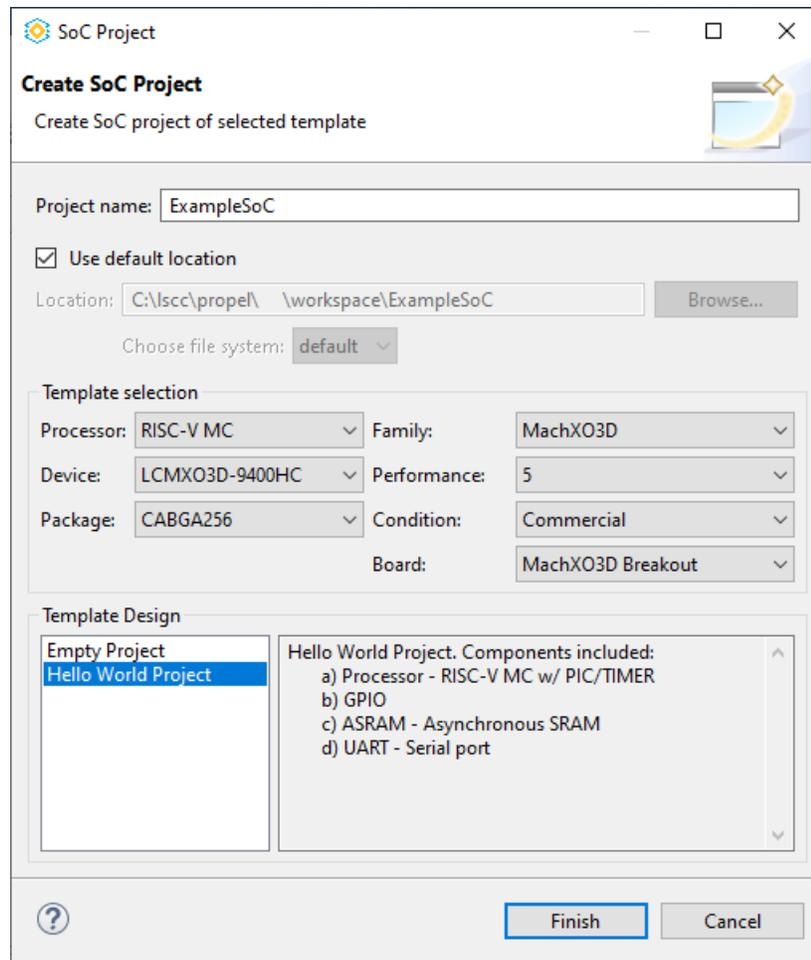

Figure 3.7. Create SoC Project Wizard
1. In Lattice Propel, choose **File > New >** **Lattice SoC Design Project**. The **Create SoC Project** wizard opens (Figure 3.7).